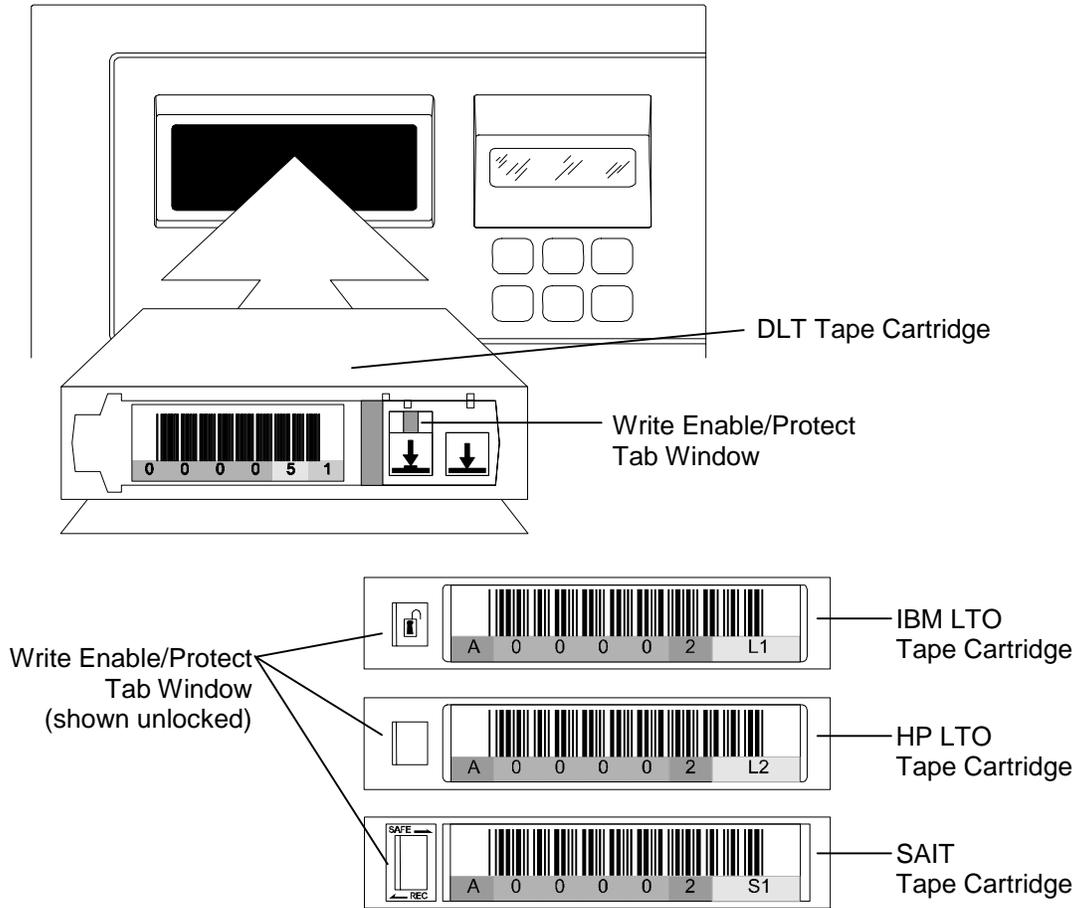

Figure 4-3 Inserting a Tape Cartridge into the I/O Port
2. Make certain the Write Enable/Protect tab is properly set, then fully insert the tape cartridge into the I/O port slot as shown in Figure 4-3.